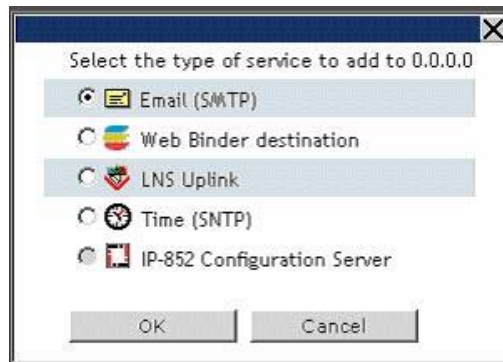

Figure 2.8 Add Service Dialog
2. Right-click the server you want to add a service to, and then select **Add Service** from the short-cut menu. The **Add Service** dialog will open, as shown in Figure 2.8.